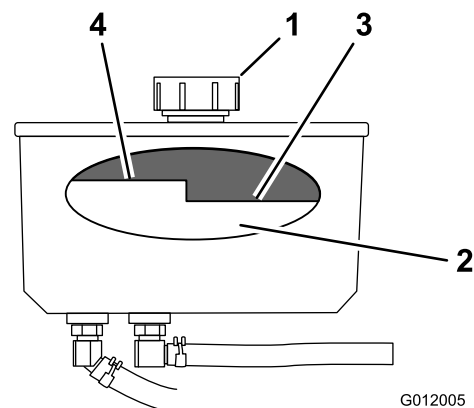

Figure 76
4. Clean area around cap and filler neck of hydraulic tank (Figure 76).
5. Remove cap from filler neck. Look inside to check the fluid level in the reservoir. (Figure 76).
Note: The fluid level should be below the hot level of the baffle, when the fluid is warm (Figure 76).